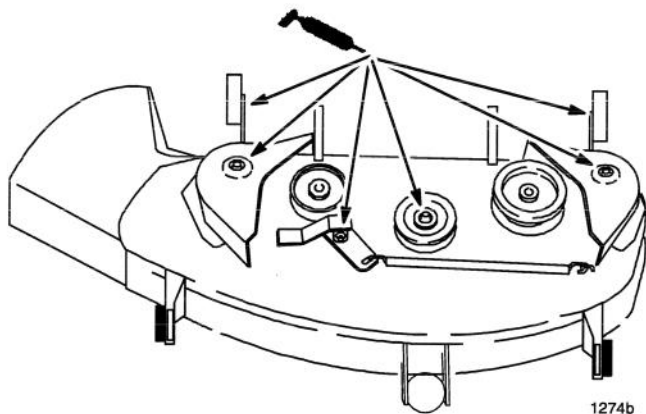

Figure 22
1. Lubricate the blade spindles, idler pulley arm and gage wheel bearings (Fig. 22).